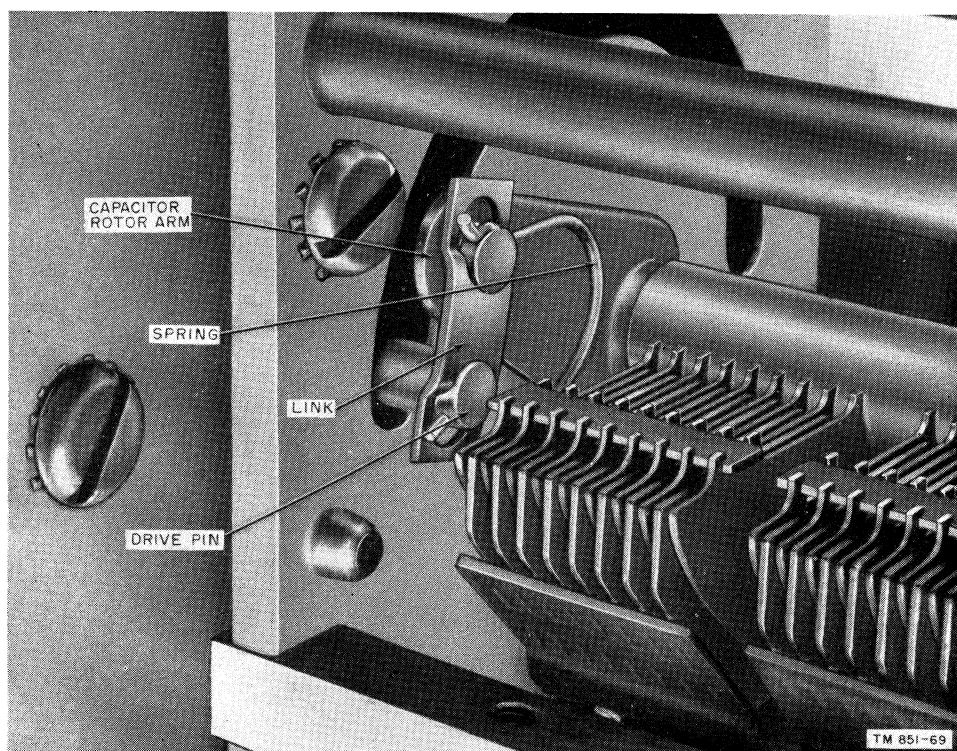

Figure 91. Radio receiver, all types, main tuning capacitor drive link and spring assembly.
92. Adjustment of Main Tuning Capacitor Drive Link and Spring (fig. 91)